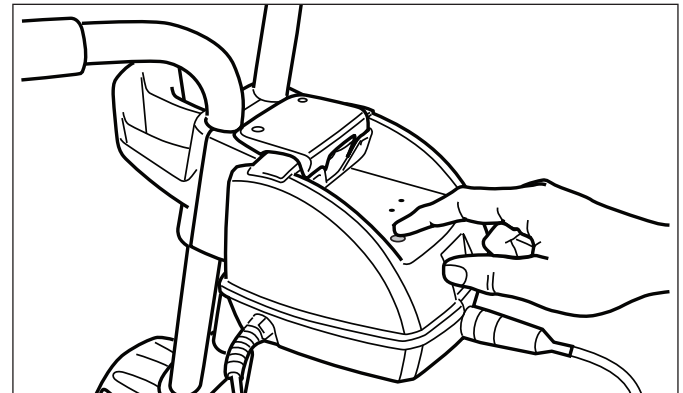

Figure 17. Turn Cleaner Off
5. If you wish to stop the cleaner during a cleaning cycle, press the "Power" button. Refer to Figure 17.